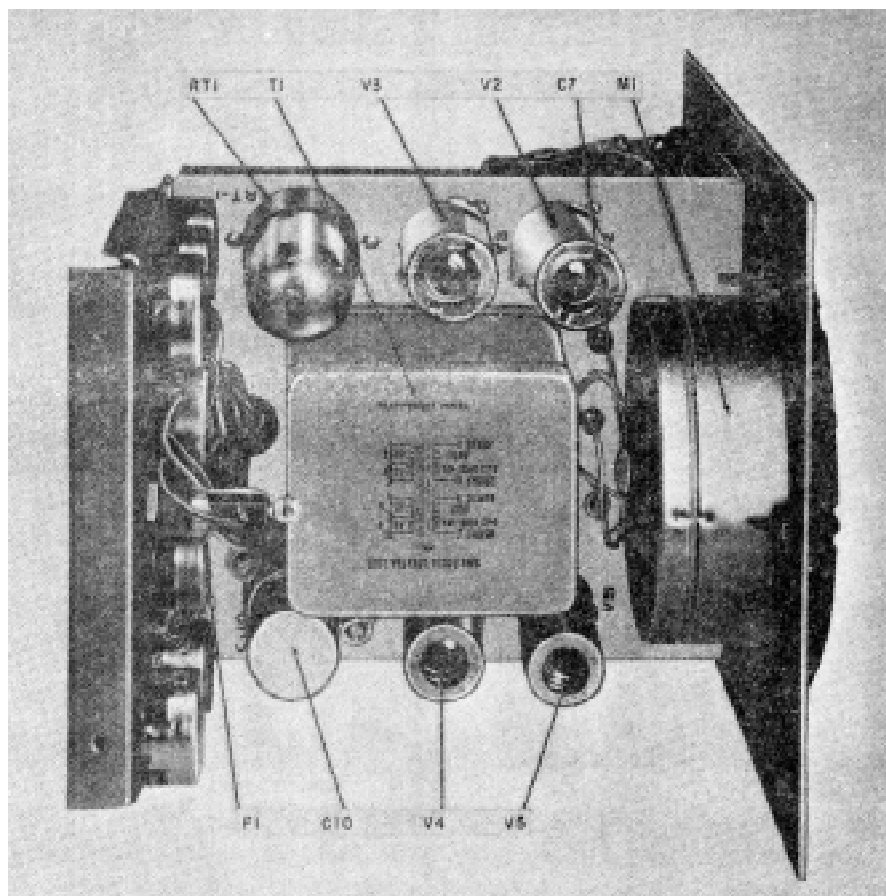

Figure 6-1. Multimeters ME-26B/U, ME-26CIU, and ME26DIU chassis, top view.
(3) *Troubleshooting chart.* The trouble symptoms listed in the chart (para 6-4b) will aid in isolating the trouble to a component part. Component location is shown in figures 6-1 through 6-7.
(2) If the resistance is approximately half of the normal indication (4,900 ohms), check for shorted capacitor C10 (fig. 6-1 and 6-8).
a. General. In the troubleshooting chart (b below), procedures are given for localizing and isolating troubles to a stage or part. Parts locations are indicated in figures 6-1 through 6-7. Voltage and resistance measurements are shown in figures 6-8 through 6-11, overall schematic diagrams are shown in figures 9-3 and 9-4. When trouble has been localized to a particular stage, use voltage and resistance measurements to isolate trouble to a particular part.
t. Capacitor C7 or C8 shorted.	t. Replace defective capacitor (fig 6-1 and 6-2, or 6-3 and 6-4).
j. Capacitor C10 defective.	j. Replace capacitor C10 (fig 6-1 or 6-3).
m. Meter M1 defective.	m. Replace meter M1 (fig. 6-1 or 6-3).